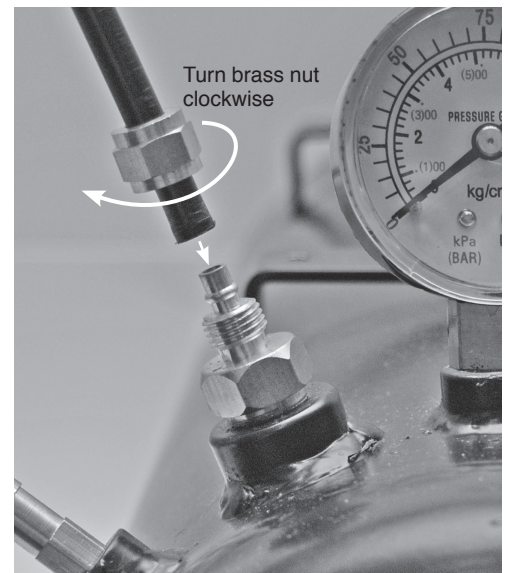

Fig. 4 Connecting the high-pressure plastic hose
HOSE INSTALLATION (Fig. 3 and Fig. 4):
7. Using the high-pressure plastic hose provided, cut to size to be able to connect the tank to inlet fitting of the accessory or valve requiring high-pressure air. Place the brass nut from the tank's outlet fitting onto the high-pressure plastic hose. Push the plastic hose fully onto the outlet fitting, tighten the brass nut onto the outlet fitting. (Fig. 4 and 5)